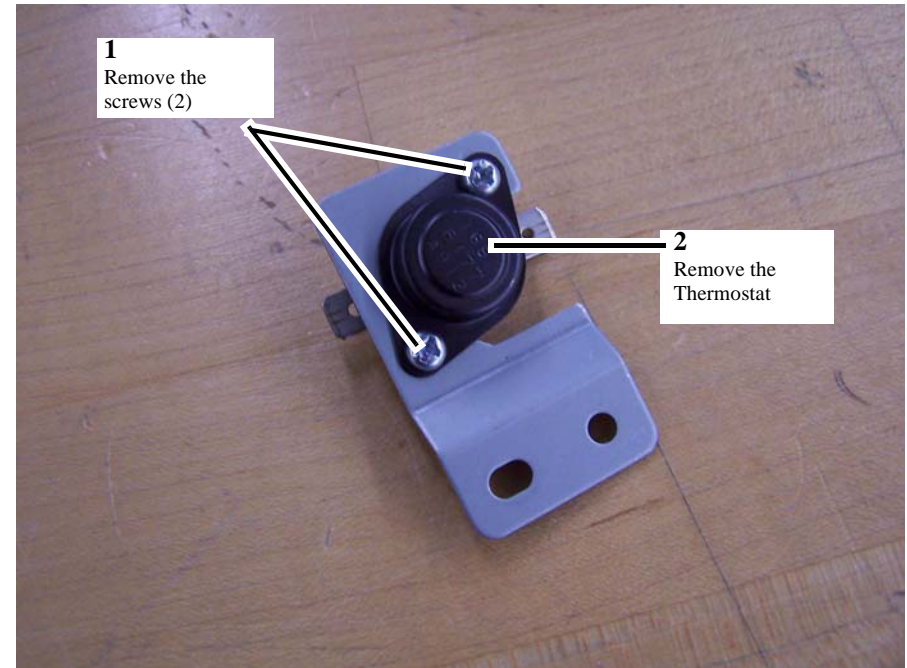

Figure 2 Thermostat removal
6. Remove the Thermostat (Figure 2).